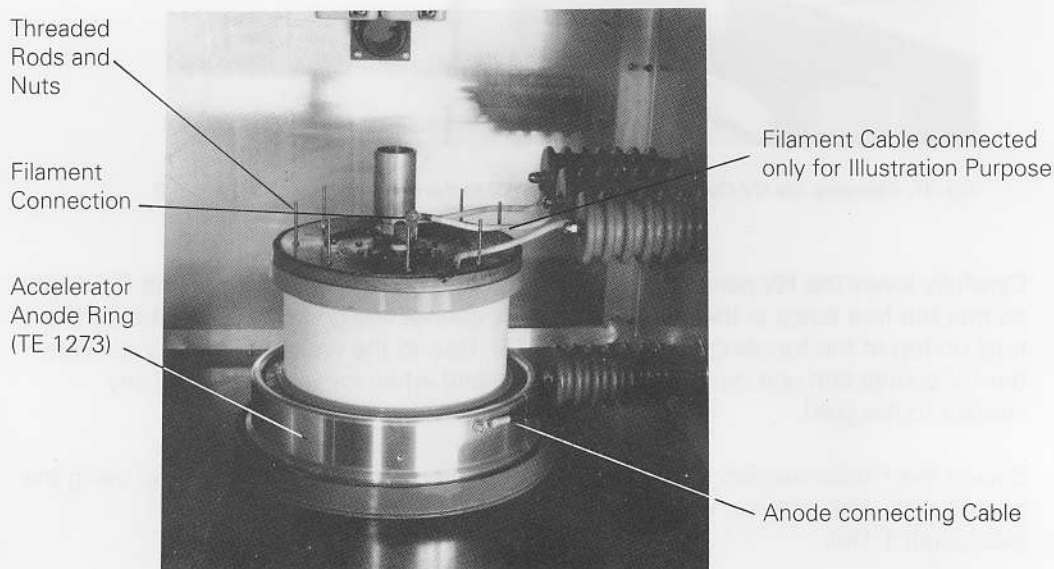

Fig. 43. Connecting the Anode Cable
- (b) Unpack the accelerator anode ring (TE 1273) and fit it (inside the HV connection unit) over the anode of the klystron (Fig. 43). Use a screwdriver to open the slot in the ring and rotate it until the anode connecting cable lines up with the threaded hole in the anode ring.
- (d) Open package P12 (paragraph 1.1.(b)) and remove the 8 M4 threaded rods and 8 nuts. Screw the 8 threaded rods into the top of the klystron (Fig. 43) and secure using the 8 nuts.